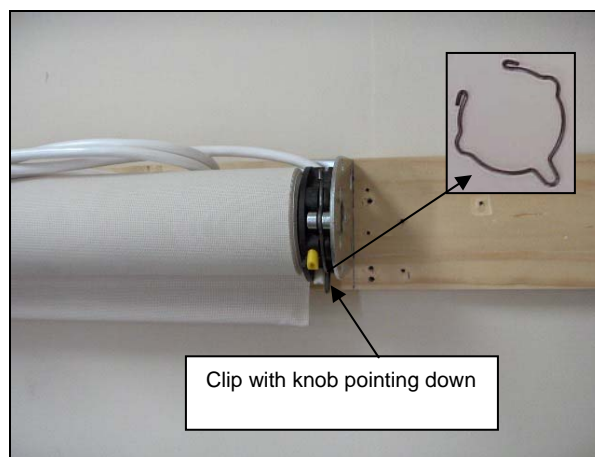

Figure 20 Motor in Bracket with Motor Retaining Clip in Place
- **Important! Follow This Step!** The motor will remain in the brackets, but to ensure that it does not slip out of the installation, attach the motor retaining clip into the groove on the pins and motor. The clip should snap into position when it has been properly inserted into the groove on both pins. See Figure 20.